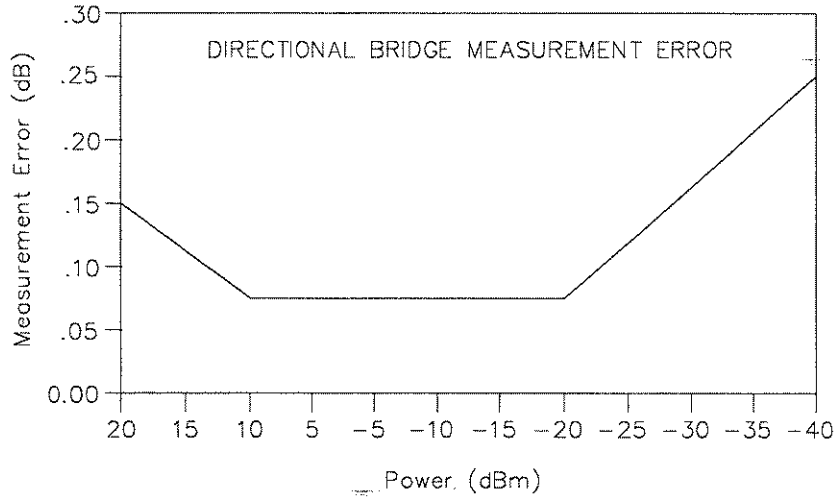

Figure 1-5. Directional bridge measurement error
- Directional Bridge Linearity Plus Zero Set & Noise vs Input Power (50 MHz, 25° C ±5° C):** (see Figure 1-5)